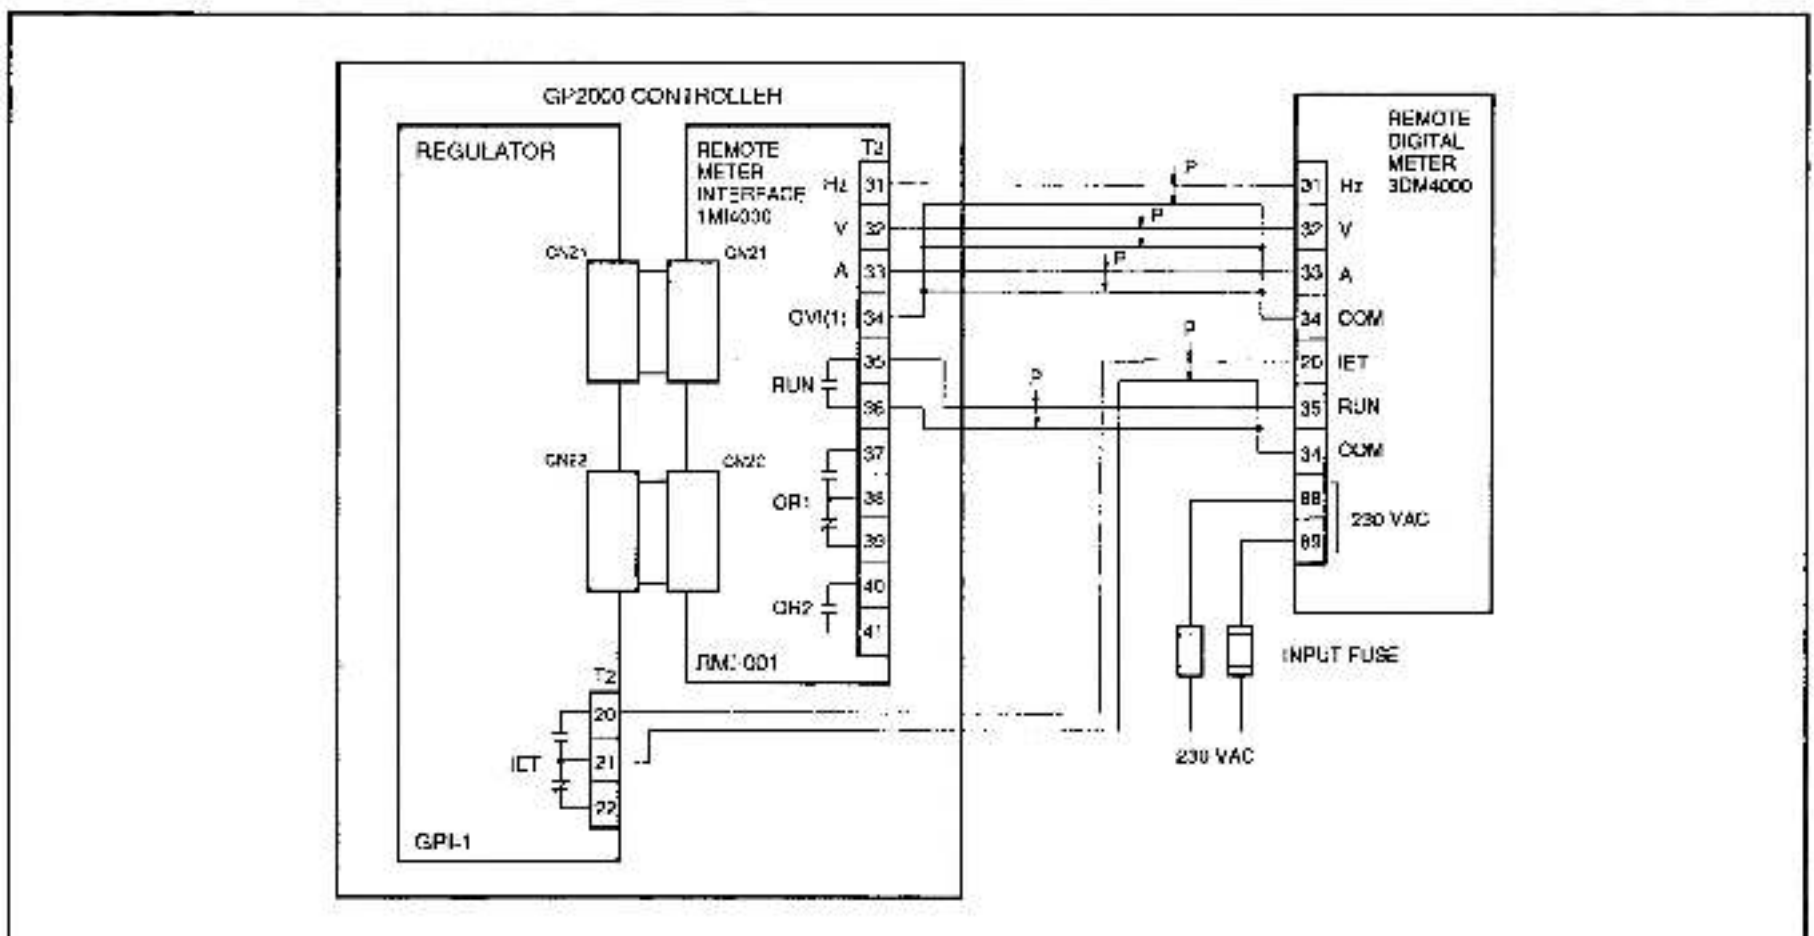

Figure 2. Connection Diagram.
10. Wire the Remote Digital Meter and the RMI card in accordance with Figure 2. For this signal wire, use twisted wire that is rated at a minimum of #22 AWG within 150 feet (50 meters).